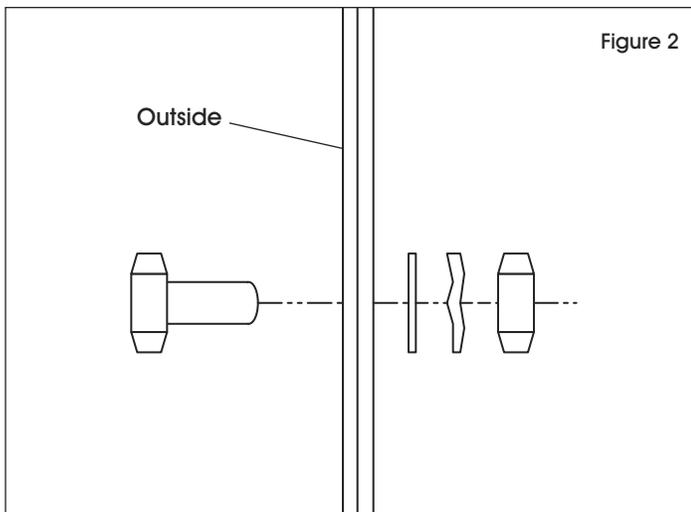

Figure 2
3. Place legs upside down on floor. Position shelf on legs. Insert socket screws through shelf and each leg from outside (seven places per leg). Tighten screws with flat washers, lock washers and nuts. Use a socket wrench. (See Figure 2)